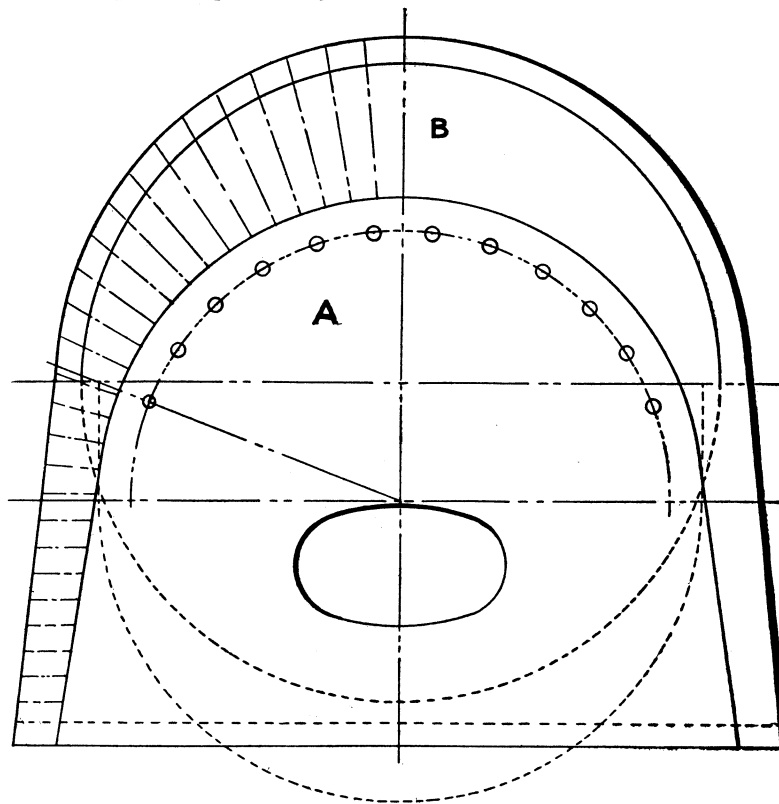

FIG. 3-A
Fig. 3-A shows a section through furnace end of a radial stayed boiler of the wide firebox type. To find the area of the segment supported by braces, first reduce the radius of the outer circle by the radius of the flange, as before; then find the area of a half-circle (B) of this radius, and from this subtract the area of the segment (A) of the circle representing that part of the firebox projecting above the center line; the remainder gives the area of the segment supported by braces. The stress on braces can then be found in the usual manner.